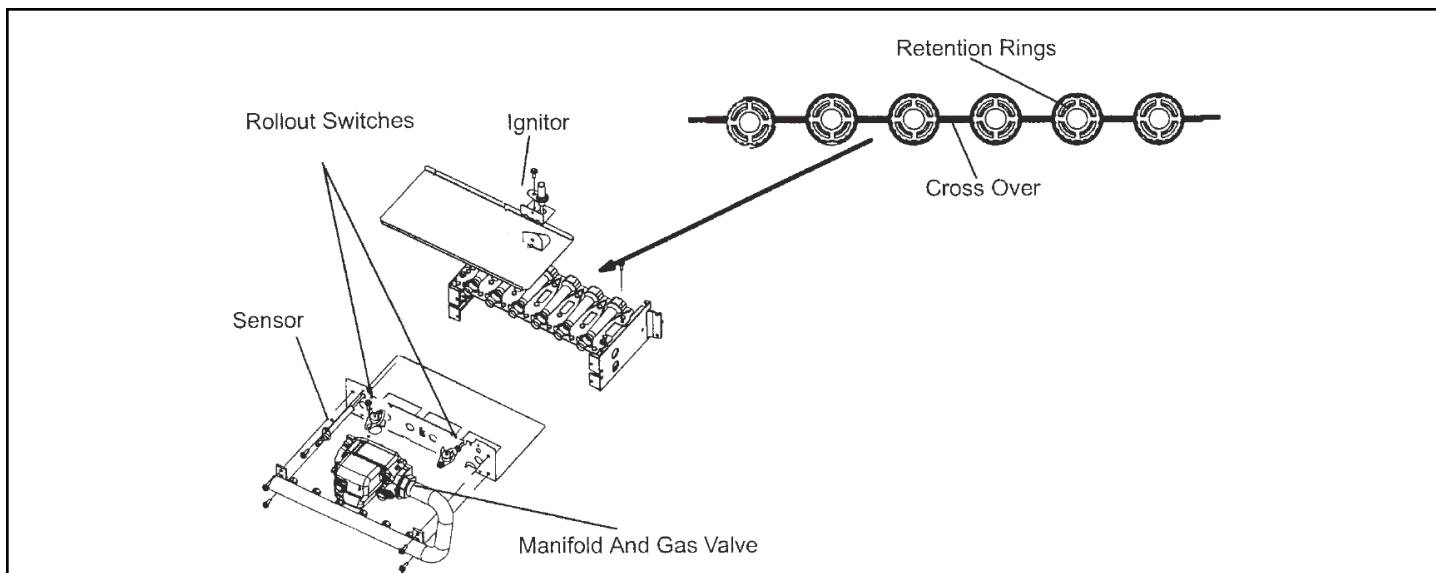

Figure 36. Burner Assembly Removal
7. To clean burners, run a vacuum cleaner with a soft brush attachment over the face of burners. Visually inspect inside the burners and crossovers for any blockage caused by foreign matter. Remove any blockage. Figure 36 shows burner detail.